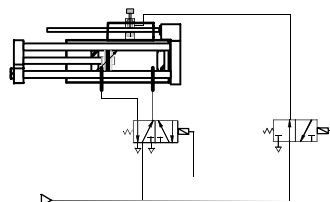

Fig. 11
- Use a common source of compressed air for connecting the valves (e.g. connection as in Fig. 11 with CP.. valve terminal).